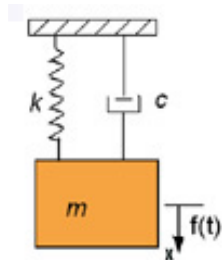

Figure 6
In contrast to Exercise 2, if you want to find out the variation of displacement of any point on the chassis of the vehicle, then the system will become a second order differential system. The classic and the most well-known example of a second order dynamic system is the spring-mass-damper system shown in Fig 6. This system involves a mass 'm' connected simultaneously to a spring of stiffness 'k' and a damper with damping ratio 'c'. The differential equation that mathematically models this system is also based on Newton's law of motion and described in equation (2):